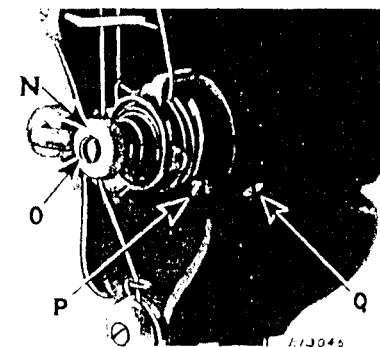

Fig. 17. Adjustment of the Thread Controller
The tension on the needle thread is regulated by the thumb nut (N, Fig. 17) at the front of the tension discs on the front of the machine. To increase the tension, turn this thumb nut over to the right. To decrease the tension, turn this thumb nut over to the left.
For more controller action on the thread, loosen the set screw (P, Fig. 17) and set the thread controller spring stop lower. For less action, set the thread controller spring stop higher, then securely tighten the set screw (P).
To increase the tension of the thread controller spring on the thread, loosen the tension stud set screw (Q, Fig. 17) and turn the tension stud (O, Fig. 17) over to the left with a screwdriver. To decrease the tension, turn the tension stud (O) over to the right, then securely tighten the stud set screw (Q).